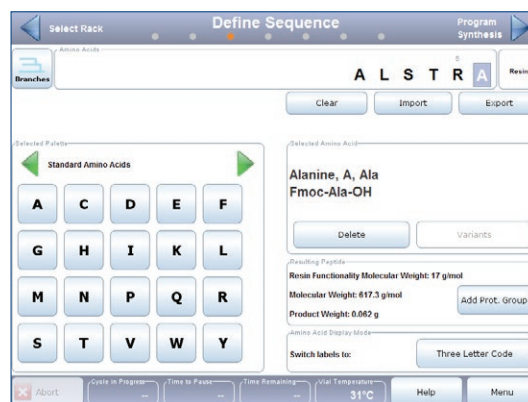

Figure 6. The Define Sequence view in the synthesis wizard.
3. Press ►. This opens the **Define Sequence** view; see Figure 6. Enter the sequence you want to process; select the amino acids from the palettes. Toggle between palettes of standard, variant, and custom amino acids by pressing ◀ or ▶ in the **Selected Palette** pane.